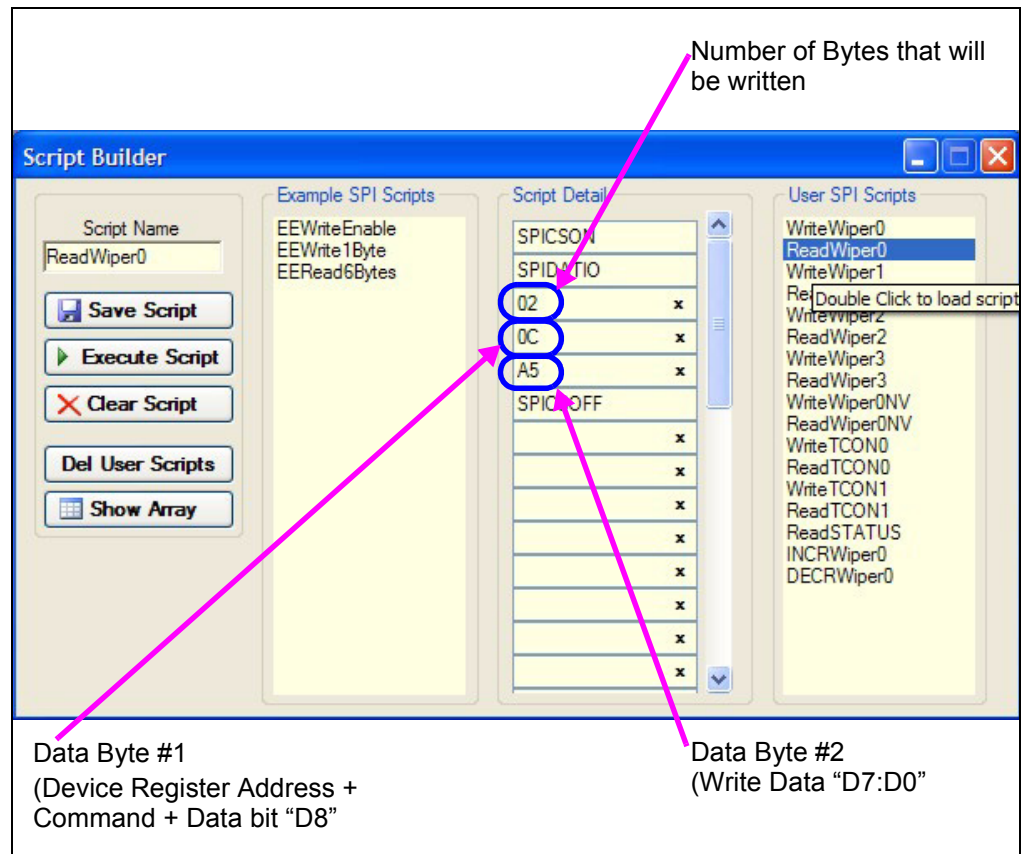

FIGURE 2-11: *Example Read Script.*
Figure 2-11 shows what the values mean in the Script Details. These values are hex numbers.
11. Select the “ReadWiper0” script in the User SPI Scripts column. It should look like Figure 2-11.
15. Select the “ReadWiper0” script in the User SPI Scripts column. It should look like Figure 2-11.